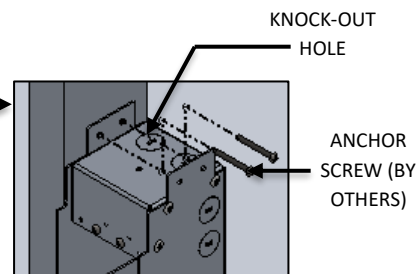

FIG. 13- DETAIL SHOWING KNOCK-OUT HOLE AND SCREWS
5. Remove the appropriate knock out for desired wire entrance location as shown in FIG. 13.